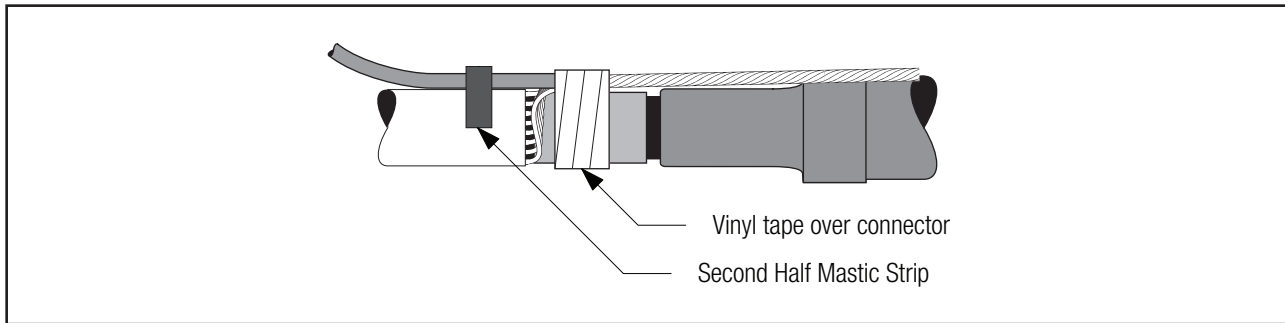

Figure 23
6.3 Place the other half mastic strip over ground wire and two rolls. Press the mastic around the ground wire and to the cable jacket. Overwrap the connectors with vinyl tape (*Figure 23*).